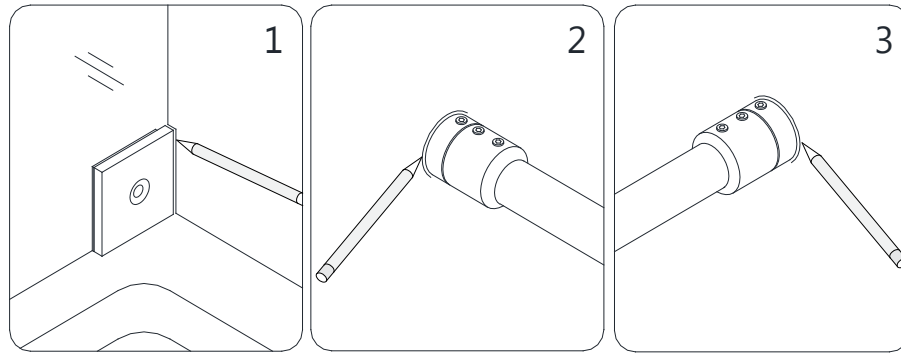

Fig. 7
6. Once the **Upper Guide Rail (#03)** is leveled, mark the position of the **Wall Bracket (#19)** and **Guide Rail Brackets (#08)** on the wall. (**Fig. 7**)